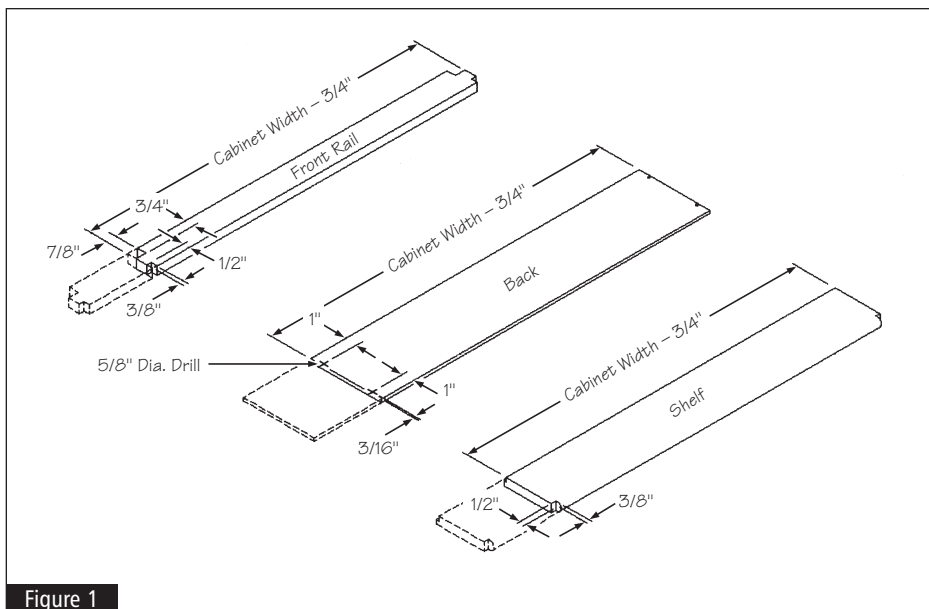

Figure 1
- 3** On the newly cut (trimmed) end of the front rail, cut the notches in the front rail to match the notches on the opposite (untrimmed) end. See Figure 1.
- 4** On the newly cut (trimmed) end of the back, drill two holes using a 5/32" drill bit to match the holes on the opposite (untrimmed) end. See Figure 1.
- 5** On the newly cut (trimmed) end of the shelf, cut the notches in the shelf to match the notches on the opposite (untrimmed) end. See Figure 1.